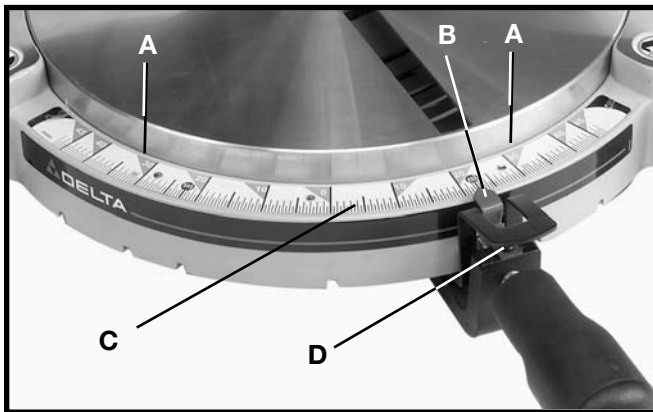

Fig. 19
A pointer (B) Fig. 19 indicates the actual angle of cut. Each line on the scale (C) represents 1 degree. When the pointer is rotated from one line to the next on the scale, the angle of cut is changed by 1 degree.
To adjust, loosen screw (D) Fig. 19, adjust the pointer, and tighten the screw (D).